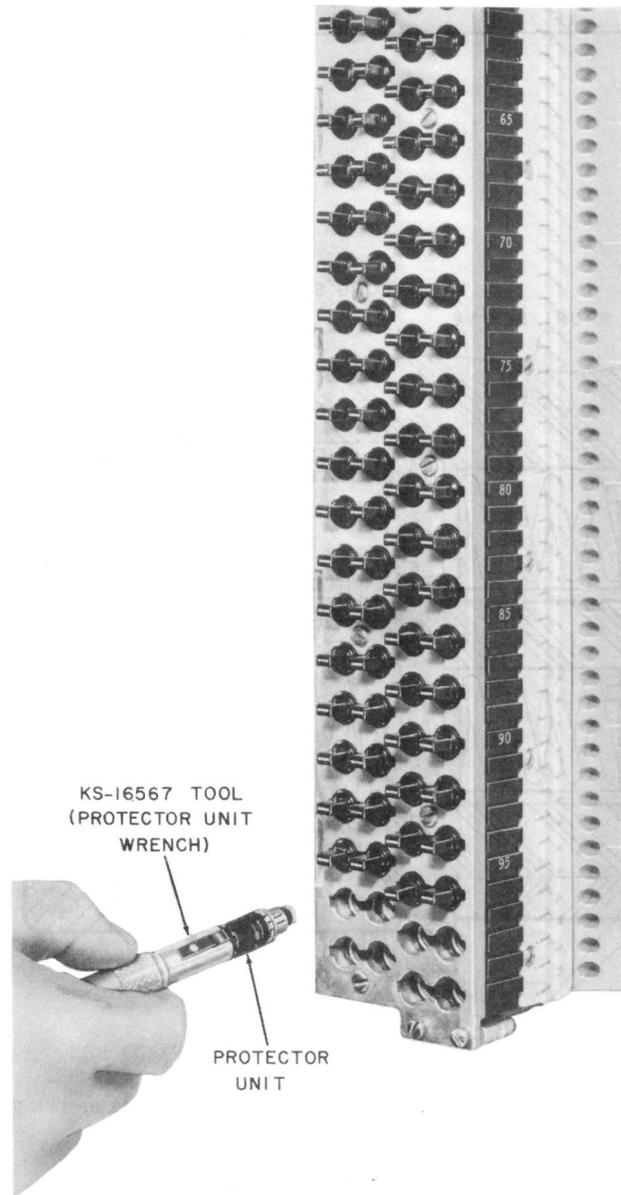

Fig. 8—Installing Protector Units Into Connector Block
2.19 The protector units are inserted into the connector with a KS-16567 tool (protector unit wrench) as shown in Fig. 8.